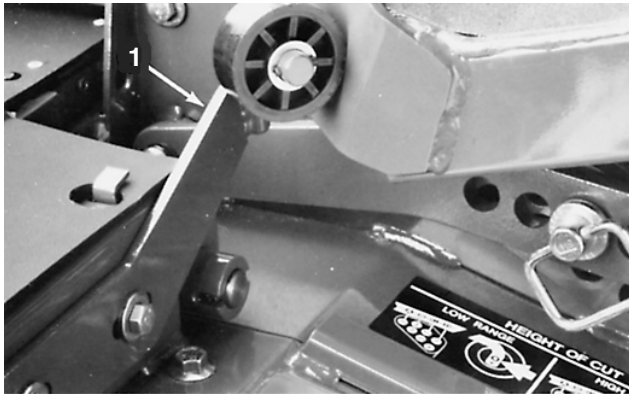

Figure 75
2. Loosen capscrews securing winglet stabilizer brackets to deck and move brackets outward (Fig. 75).